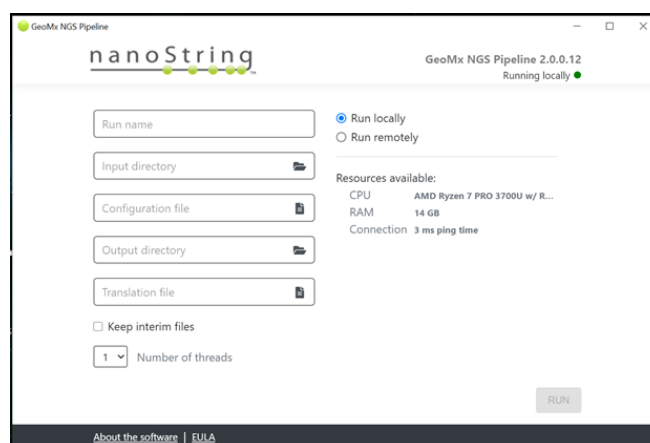

Figure 11: GeoMx NGS Pipeline run setup window
3. Create a **Run name** (Figure 11).